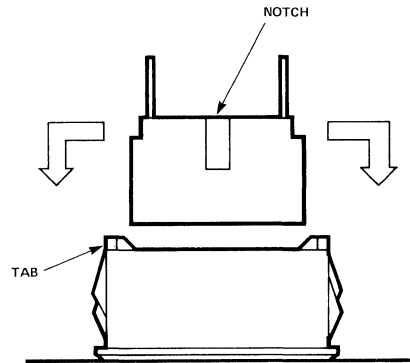

Figure 1. Installation of a Light Bar into a Panel Mount
2. Place the front of the mount against a solid, flat surface. A film legend with outside dimensions equal to the outside dimensions of the light bar may be placed in the mount or on the light bar light emitting surface. Press the light bar into the mount until the tabs snap over the back of the light bar⁴. When inserting the HLMP-2898, align the notched sides of the light bar with the mount sides which do not have the tabs. (See Figure 1)